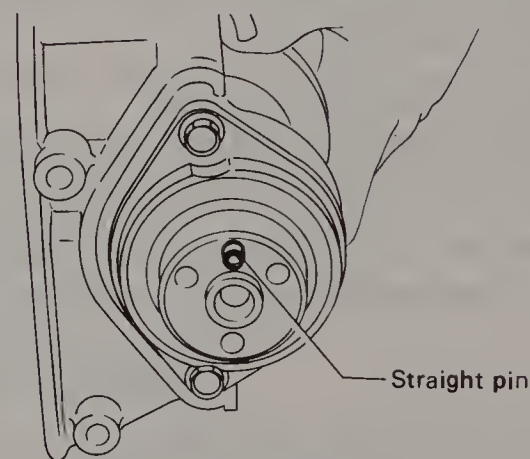

Fig. 13.21 Position the camshaft pin as shown to install the new O-ring (Sec 5)
- 104 Install a new O-ring in the camshaft case by positioning the camshaft with the camshaft pin oriented as shown in Fig. 13.21.